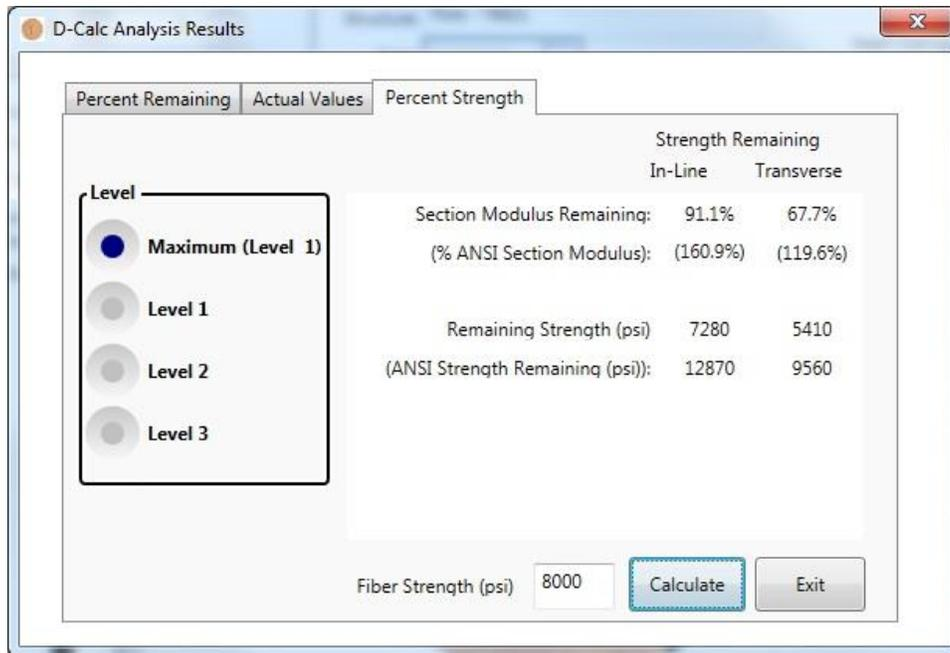

Figure 5-3. Example of “Percent Strength” Tab in Results Window
- **Percent Strength** remaining for Section Modulus, and remaining strength in psi (Figure 5-3)